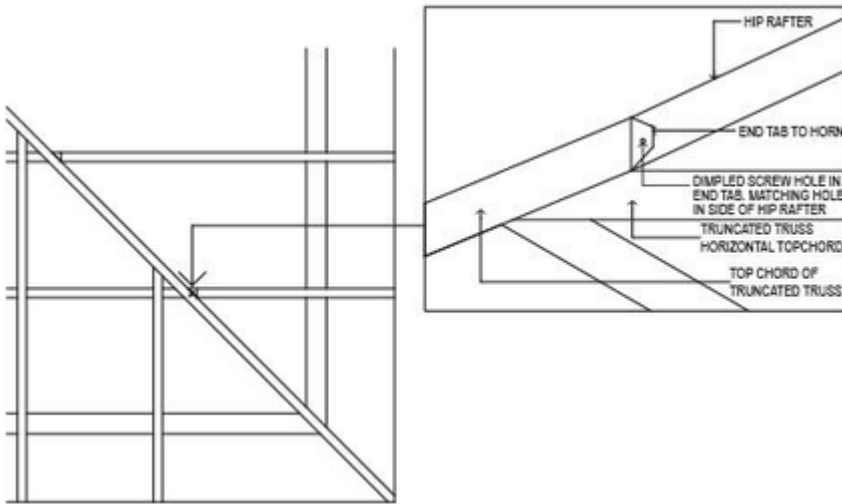

Figure 7.26 Boxed hip rafter
Step 10: Creeper rafters are supported by the hip rafter and the external wall. They are generally short rafters near the corner of the building. Ensure sufficient back span is provided to give the installed rafter sufficient strength. Mark the overhang length on the creeper rafters as per the jack rafters. Install the creeper rafters in the locations shown on the layout drawing fixing to the creeper rafter and the wall top plates as shown in **Figures 7.40** to **7.43**. Fix creeper rafter to hip rafter as shown in **Figures 7.26** and **7.27**, **7.3**, **7.42** to **7.49**, and **7.53**.